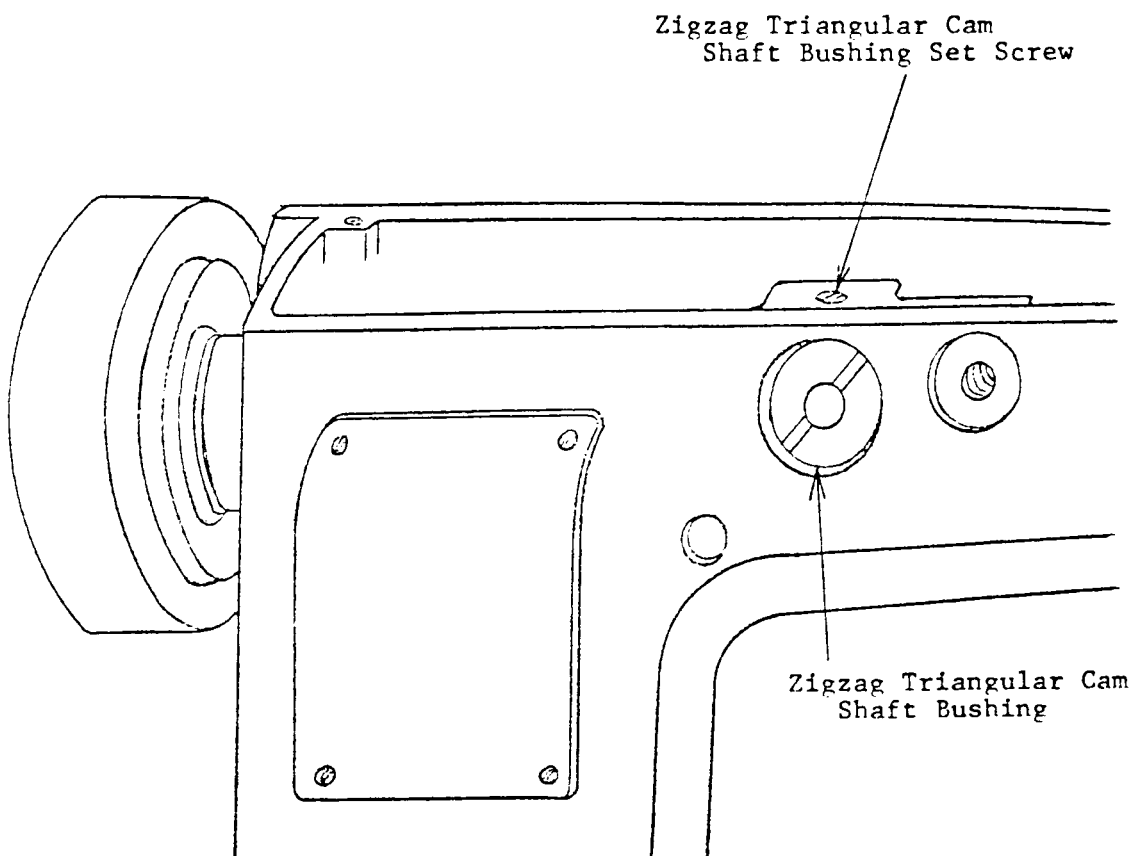

Fig. 30
1. Remove two arm top cover screws and lift off cover and loosen zigzag triangular cam shaft bushing set screw. (Fig. 30)